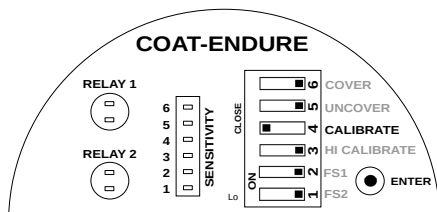

Figure 10: Calibration Switch Position
- To start the calibration process, set the CALIBRATE switch to CLOSE (Opposite of OPEN in a DIP switch) position as shown in Figure 10.